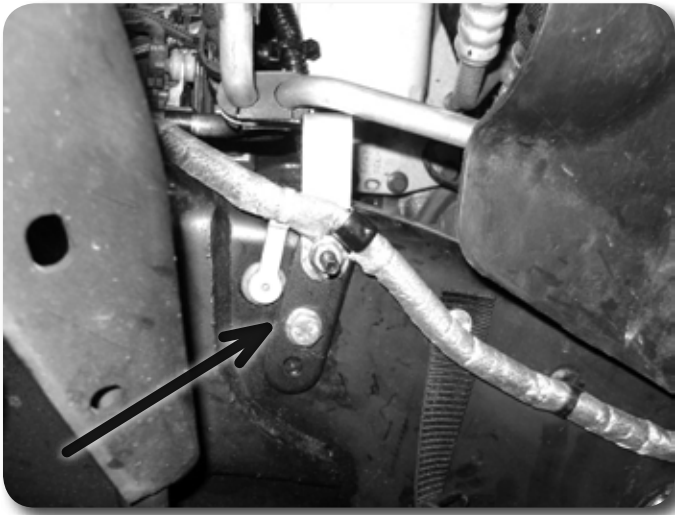

Figure 1
3. Disconnect the AC condenser lines from the passenger's side of the frame rail **Figure 1**. Note, this will need to be disconnected to gain access to the oil filter each time an oil change is performed.